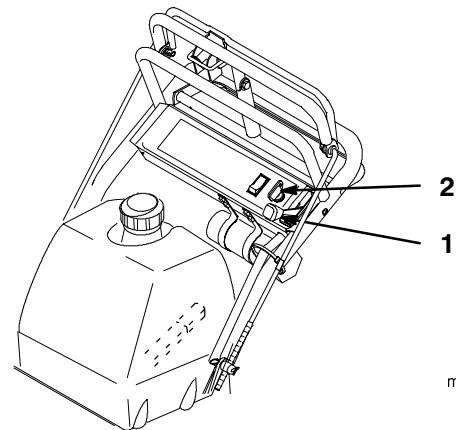

Figure 12
1. Move the throttle lever to the Slow position (Fig. 12).
2. Turn the ignition key to the Off position (Fig. 12).